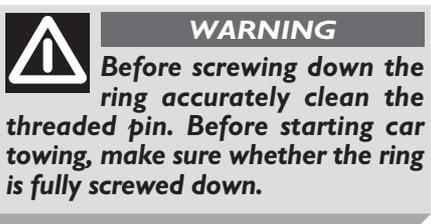

fig. 38
- Remove the small pressure fitted cover **A-fig. 38** on the rear bumper. Should the outfit flat tip screwdriver be used for this operation, it is necessary to protect the flat tip with a soft cloth, to avoid possible damage to the car.